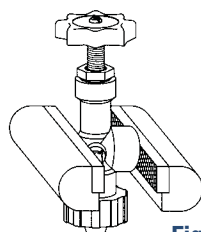

Figure 1
1. Place the adapter valve in the vise so that the handwheel is up and the valve outlet is held flat against one of the vise jaws. Make sure that the ACME hand nut at the bottom of the valve clears the vise jaw (see Figure 1). Do not overtighten. Overtightening the vise can distort the valve body, making it difficult to remove the poppet assembly. Should this occur, the entire valve must be destroyed so it cannot be reused.